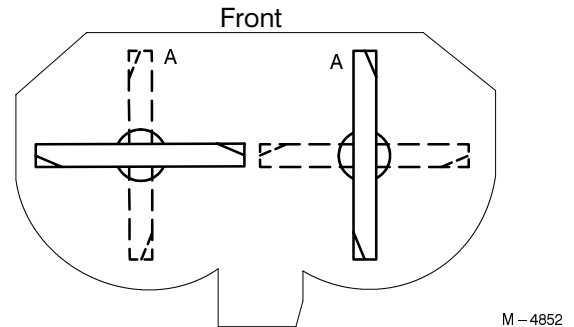
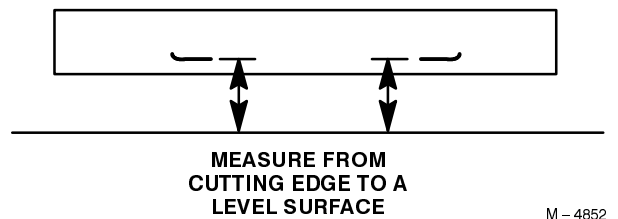

Figure 50
Figure 51
3. With the machine on level surface, position one blade front-to-rear (Fig. 50). Measure at "A" from level surface to the cutting edge of the blade tips (Fig. 51).